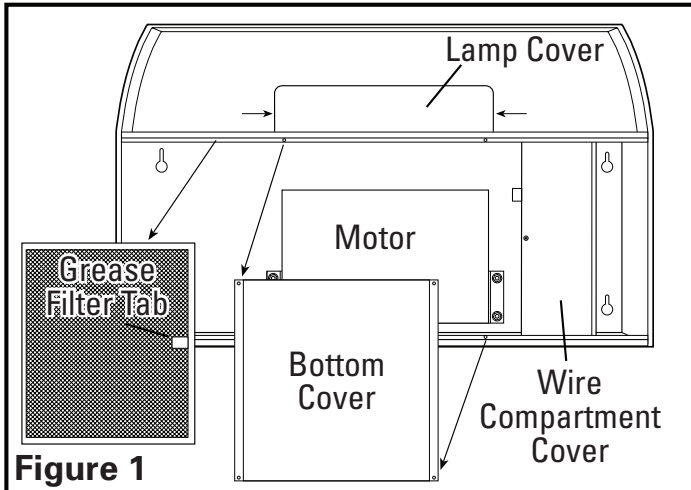

Figure 1
3. Remove the following items from the hood and place in a safe place until needed (**Figure 1**):